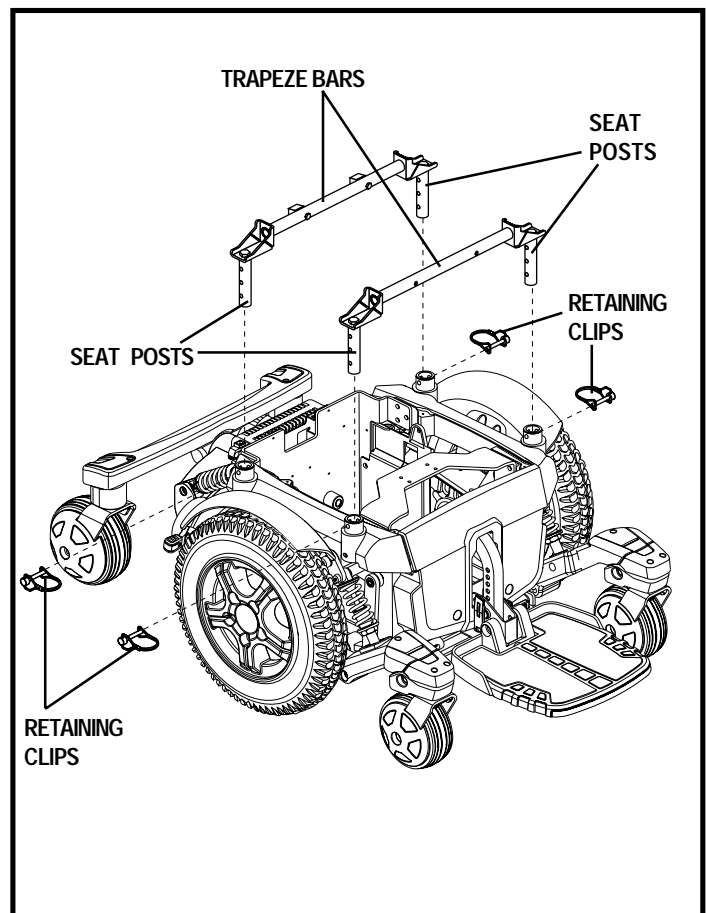

Figure 15. Seat Height/Angle Adjustment
8. Remove the retaining clips that attach the trapeze bars to the seat posts. See figure 15.